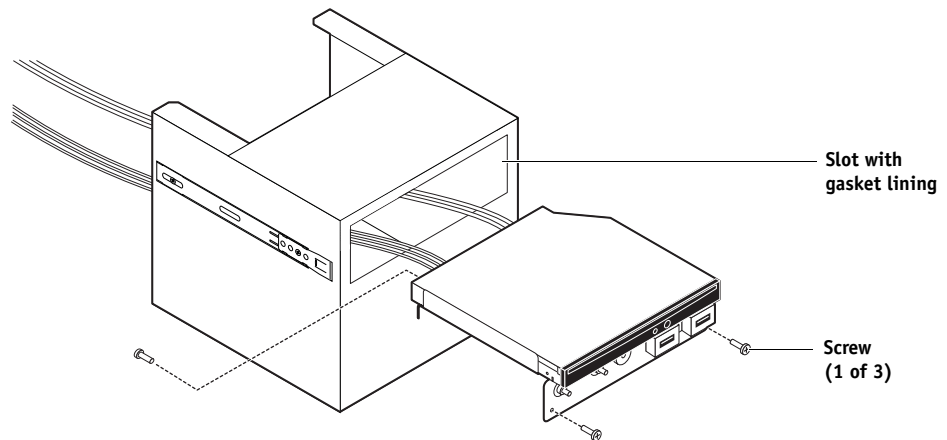

FIGURE 46: Removing/replacing the switch bank assembly
5. Remove the switch bank assembly from the component sled (see Figure 46).
3. Install the switch bank assembly in the component sled (see Figure 46 on page 128).